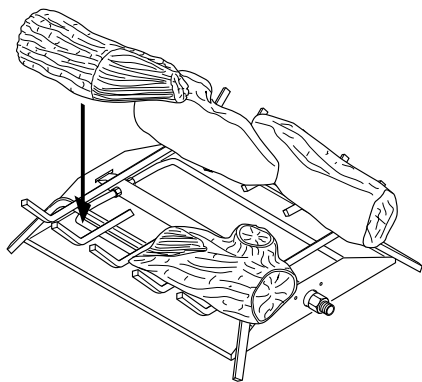

Figure 16 - Placement of Bottom Logs
2. Place one of the bottom logs on grate and slide forward against front grate bars. Repeat for other side (see Figure 16).